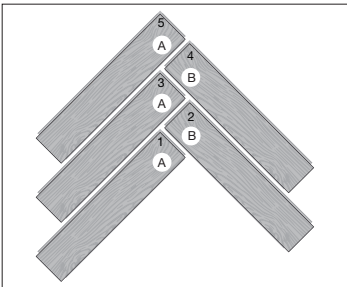
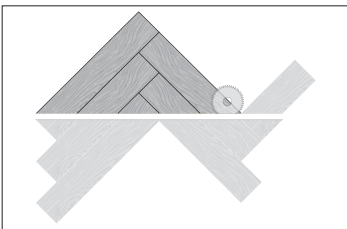

Figure 4
Figure 5
- Take the A-planks and B-planks and position them as seen in Figure 4. Apply a 1/8” bead of Bruce Everseal (or tongue & groove flooring adhesive) in the groove of each plank, then assemble planks into a triangle. Use tape such as Scotch® Delicate Surface Painter’s Tape 2080 tape to hold planks in place as glue dries. After adhesive is cured carefully remove tape. Cut the first triangle as shown (Figure 5).